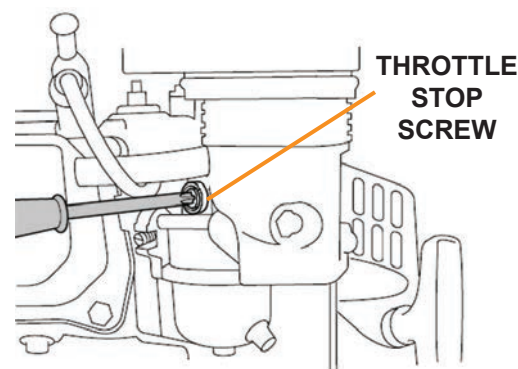

Figure 8
3. Turn the throttle stop screw to obtain the standard idle speed, (see Figure 8). Standard idle speed: 1,800±150 rpm